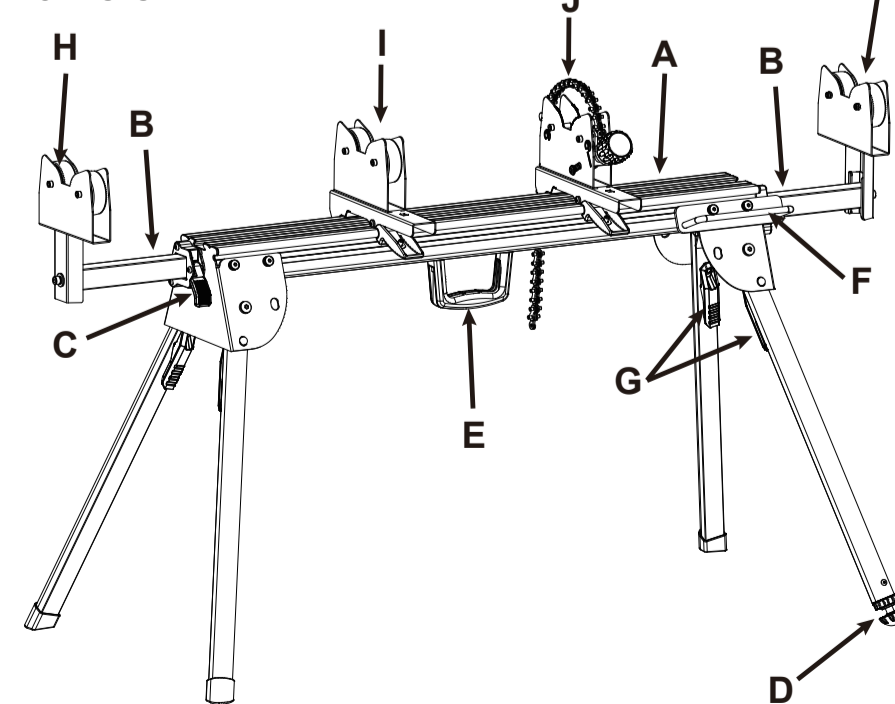

Figure 2
1. Lift up the extension arm locking lever to release the extension arm. (Figure 2-C)